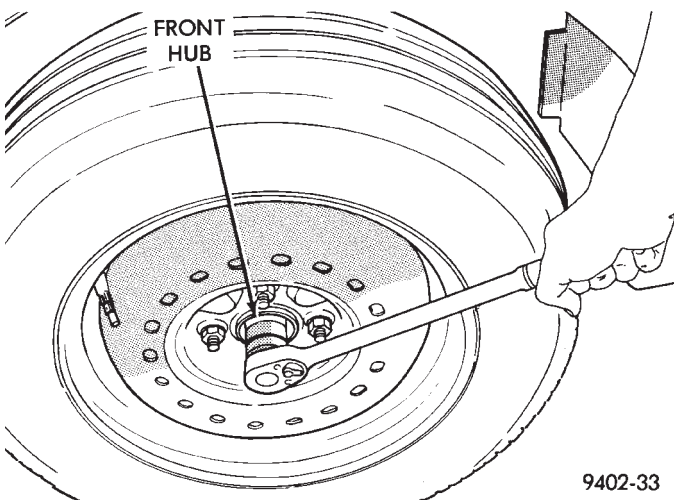

Fig. 31 Loosening Front Hub Nut
(2) Loosen hub nut while vehicle is on the floor with the brakes applied (Fig. 31). **The hub and driveshaft are splined together through the knuckle (bearing) and retained by the hub nut.**